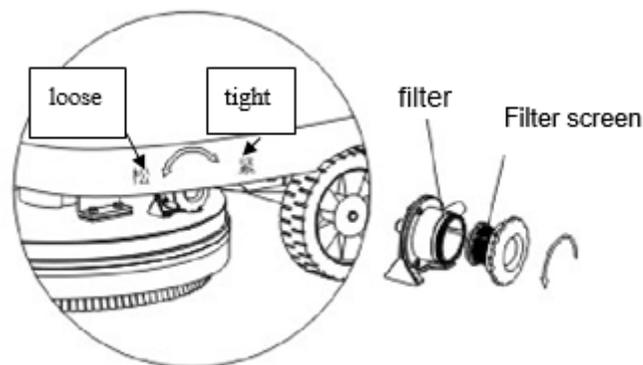

Figure13
- 16. Ensure the clean water tank is clean. Cumulation may cause a blockage. Clean the filter weekly to ensure the water pipe expedite when in operation (see figure 13)